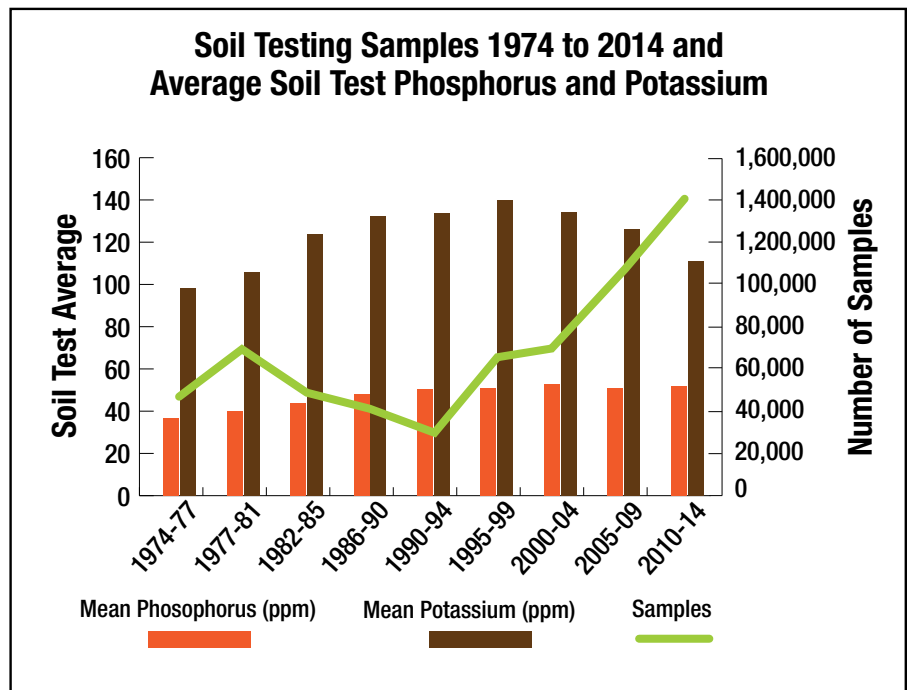

Figure 5
Information compiled from the years 2010-2014 shows a steady increase in the number of soil samples submitted to DATCP-certified soil testing laboratories, continuing an upward trend that began in the period of 1990-1994 (see Figure 5). This is not unexpected since having current soil tests is one of the most important first steps in developing a 590 compliant nutrient management plan, and the number of cropland acres with a plan continues to grow.
An examination of Bray-1 soil test phosphorus (P) trends 1995 - 2014 shows that the statewide average is leveling (see Figure 5). Samples submitted from 2010 - 2014 to DATCP certified labs had an average of 52 ppm P, compared to 51 ppm P from 2005 - 2009. Examining median soil test P trends by county over the 1995 - 2014 period, shows 30 counties with a significant linear decrease in soil test P in submitted samples. The median soil test P change ranges from -8.47 to -0.22 ppm per year. Largest drops in soil test P were observed in Oneida (-8.47 ppm / yr), Marinette (-1.16 ppm/yr), and Barron (-1.01 ppm / yr) counties. Oneida's large drop may be due to relatively few samples being analyzed (118 per year on average). Another 39 counties had no statistically significant linear trend over the 1995 - 2014 time period. Three counties showed a statistically significant upward linear trend in median soil test P. These counties were Adams (+1.90 ppm/ yr), Portage (+2.27 ppm/
Potassium levels in soil samples have declined a bit, with a state average of 111 ppm between 2010 and 2014. This continues a statewide downward trend from a peak of 140 ppm in the years of 1995-1999 (see Figure 5).